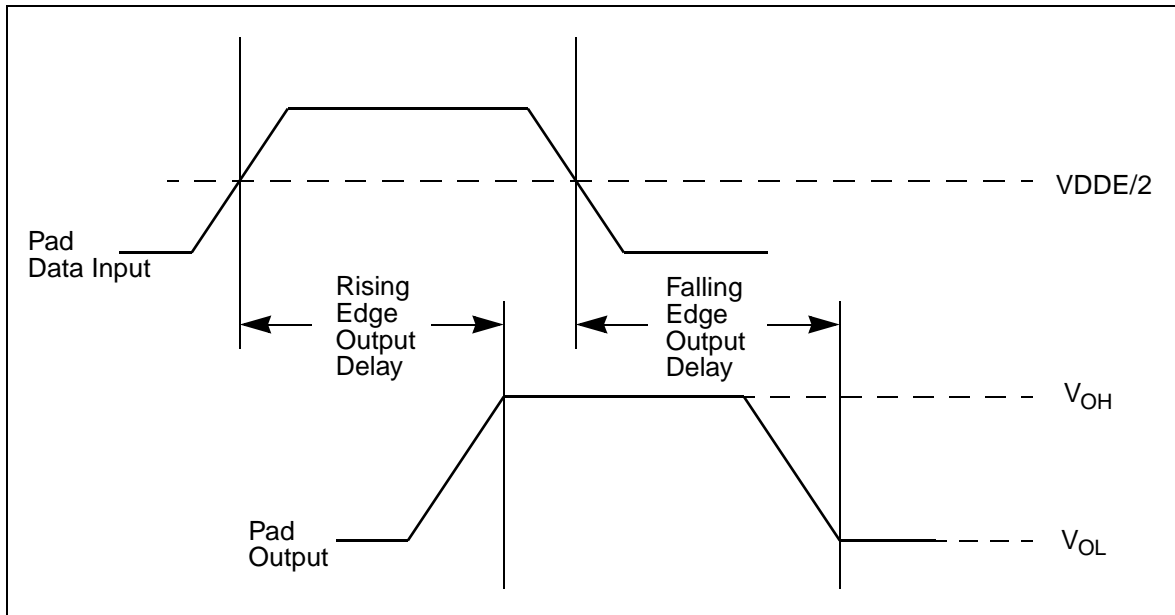

Figure 9. Pad output delay
7 Output delay is shown in Figure 9. Add a maximum of one system clock to the output delay for delay with respect to system clock.
- 7 Output delay is shown in Figure 9. Add a maximum of one system clock to the output delay for delay with respect to system clock.